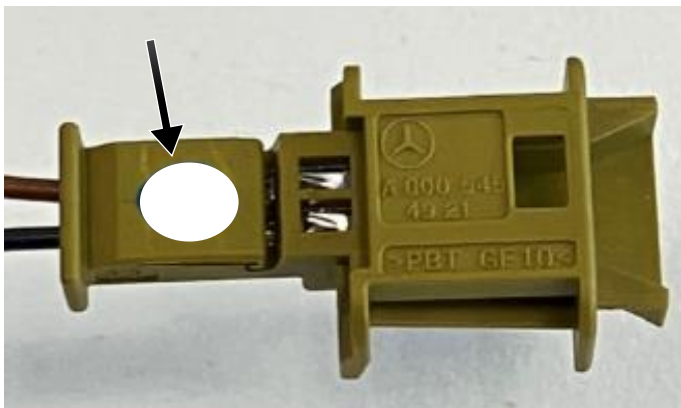

Figure 2
2. Mark connector housing with a white color dot (**Figure 2**).